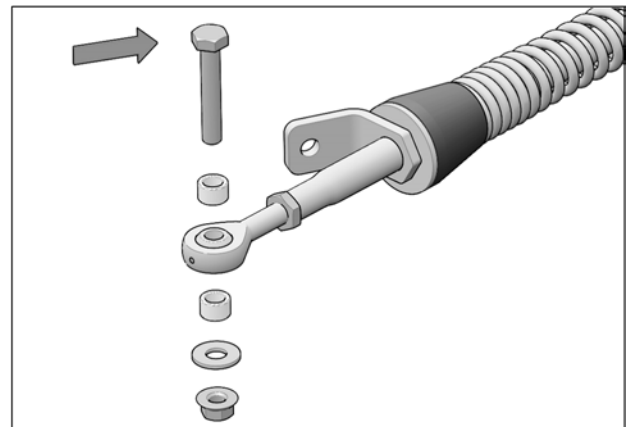

Fig. 3
- Remove bolt, washer and spacer bushings from the rear stabilizing rod end. Discard the M10x60mm bolt and one of the spacer bushings from the disassembled set of parts of each stabilizing rod. See Fig. 3